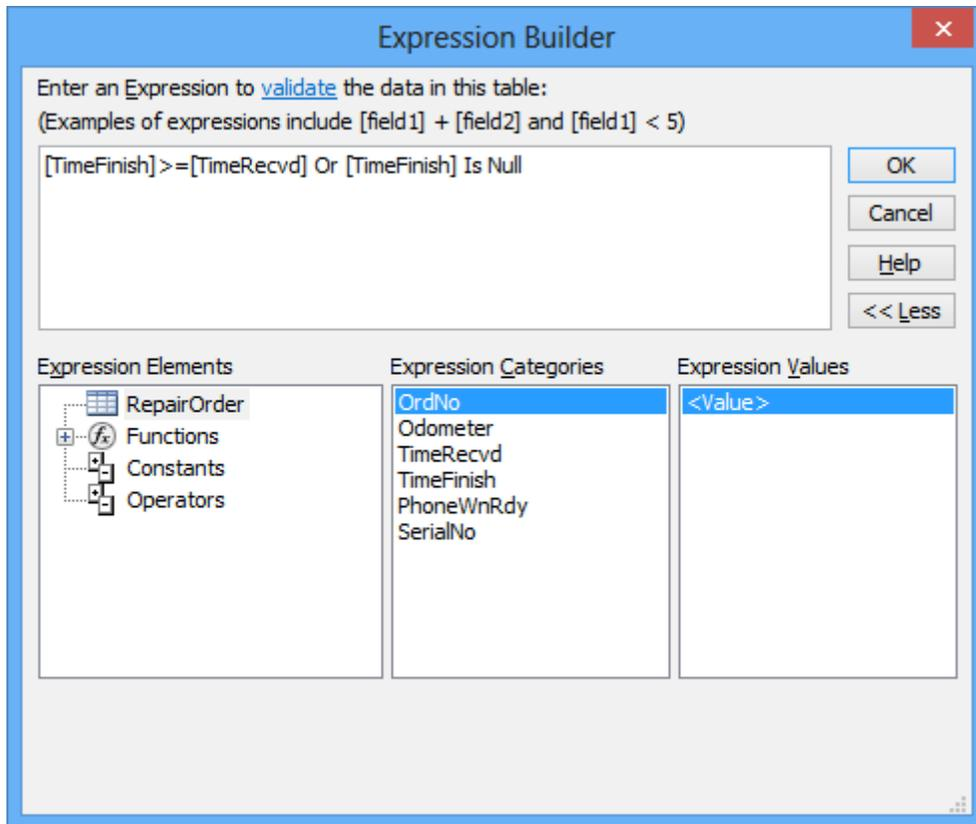

Figure 18: Expression Builder Window Showing the Table Validation Rule
2. **Open the Expression Builder:** Click in the *Validation Rule* area and then click the ellipsis (...) button to invoke the Expression Builder window (Figure 18). If necessary, refer back to Chapter 1 to review instructions about using the expression builder.
3. **Complete the Expression:** Fill in the Expression Builder window to match Figure 18. You may either type the expression or use the expression builder to select certain parts. For example, you can select field names from the middle, bottom pane. Type the comparison operator (>=) because it cannot be selected from the operator buttons below.¹ When you are finished, click **OK** to return to the Table Properties window.